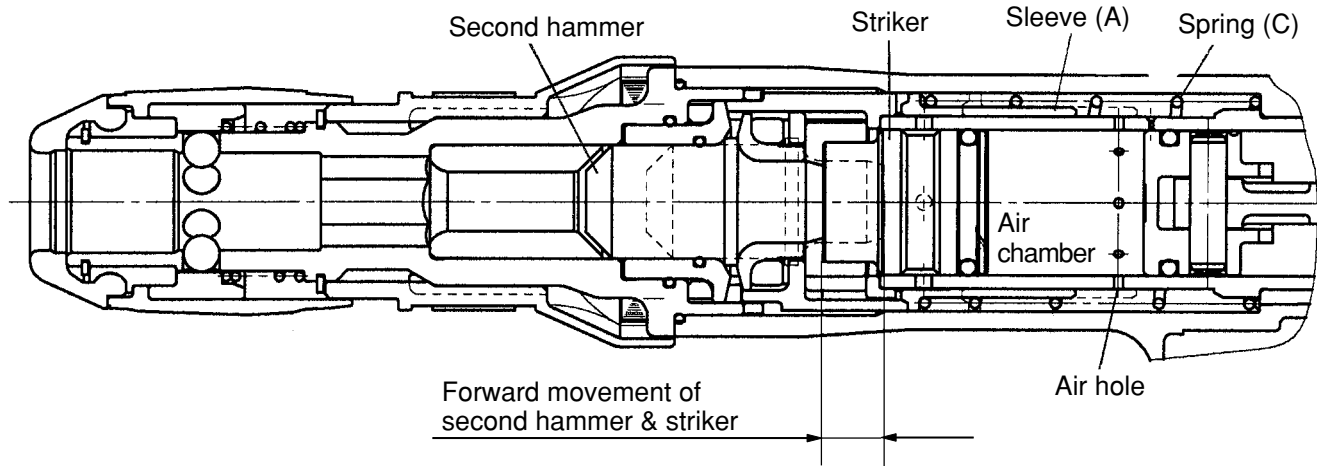

Fig. 5
When the bull point is released from the concrete surface, sleeve (A) and the second hammer are forcibly moved to the position illustrated in Fig. 5 by spring (C), and the striker moves out of striking position. When this occurs, the air holes located at the position unaffected by the rebound of the striker at no load are opened and the pressure within the air chamber remains unchanged even though the piston continues to reciprocate, thereby preventing striking operation.